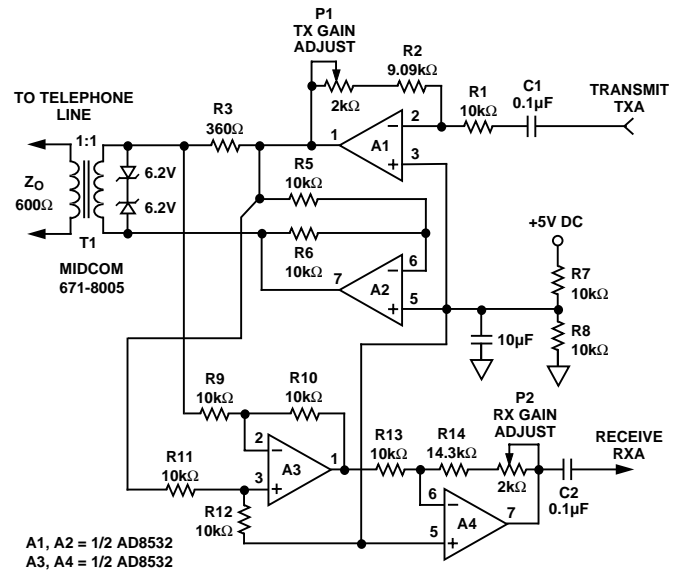

Figure 42. A Single-Supply Direct Access Arrangement for Modems
Figure 42 illustrates a +5 V only transmit/receive telephone line interface for 600 Ω transmission systems. It allows full duplex transmission of signals on a transformer coupled 600 Ω line in a differential manner. Amplifier A1 provides gain that can be adjusted to meet the modem output drive requirements. Both A1 and A2 are configured to apply the largest possible signal on a single supply to the transformer. Because of the high output current drive and low dropout voltage of the AD8531/AD8532/AD8534s, the largest signal available on a single +5 V supply is approximately 4.5 V p-p into a 600 Ω transmission system. Amplifier A3 is configured as a difference amplifier for two reasons: (1) It prevents the transmit signal from interfering with the receive signal and (2) it extracts the receive signal from the transmission line for amplification by A4. A4's gain can be adjusted in the same manner as A1's to meet the modem's input signal requirements. Standard resistor values permit the use of SIP (Single In-line Package) format resistor arrays. Couple this with the AD8531/AD8532/AD8534's 8-pin SOIC or TSSOP footprint and this circuit offers a compact, cost-sensitive solution.